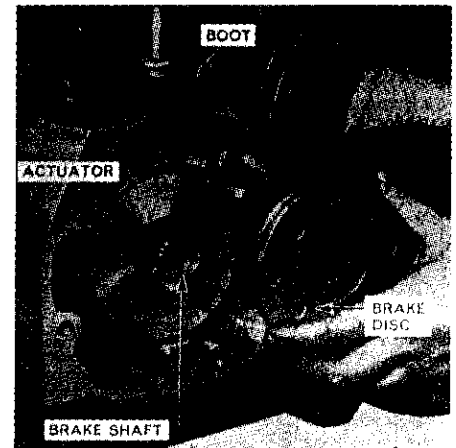

Fig. 350—View showing handbrake unit partly disassembled.
314. R&R BRAKE ASSEMBLY. Refer to the exploded view of brake assembly in Fig. 349 and proceed as follows: Drain center housing and hydraulic system and remove left step plate. Remove the adjusting nut (2) and spacer (3); then, unbolt and remove handle assembly (1) from brake housing. Remove cover plate (11), outer brake disc (12) as shown in Fig. 350, then slide actuating assembly from housing and remove the inner brake disc. The cap screws retaining brake housing (17—Fig. 349) and the bearing retainer (23) and shaft (29) assembly to center housing can then be removed. Be careful not to lose or damage shims (25) located between bearing retainer and center housing.